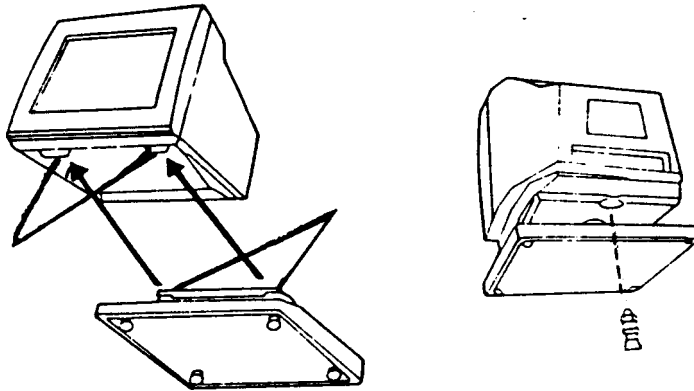

Figure 2-3 Mounting Color Monitor on Swivel Base
2. Mount the monitor on the swivel base (see Figure 2-3): invert the monitor, engage front edge of base under tabs on monitor, snap pin into hole at back of base.